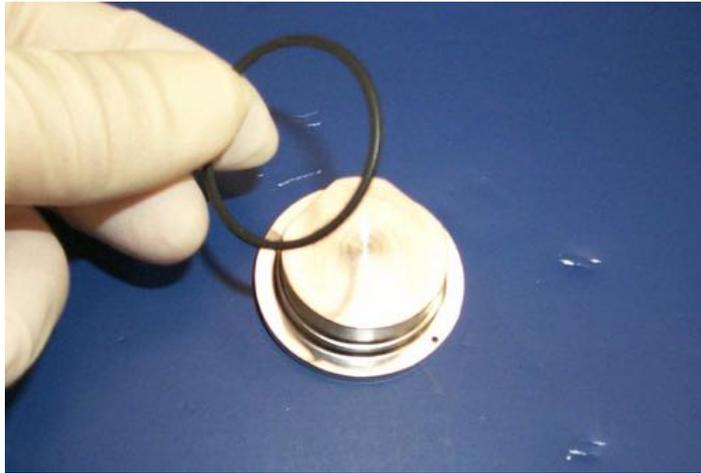

Figure 5-15 Removing the O-ring from Magnetic Pole Piece
3. Remove the O-ring from the magnetic pole piece and place both the O-ring and the magnetic pole piece on a clean surface (Figure 5-15).